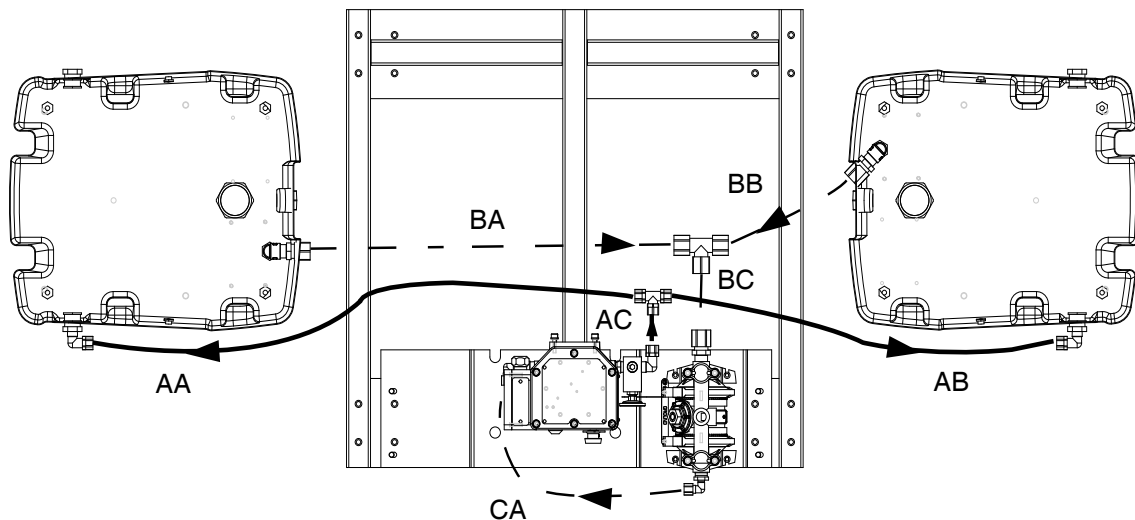

FIG. 2: Fluid schematic for only heating hoppers
NOTE: See FIG. 2 on page 9 for fluid schematic of heated fluid.
- Heating hoppers only. See FIG. 2 on page 9.